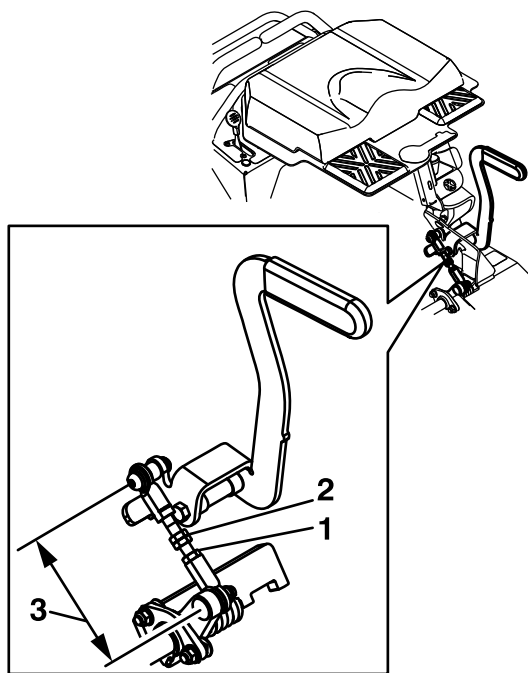

Figure 22
6. To adjust the brake, loosen the jam nut at the lower end of the ball joint. and retain the hairpin and washer on the brake linkage rod. Turn the 2 jam nuts on the brake linkage rod until the distance between the 2 ball joints is reached as shown in Figure 22. Turn the brake linkage rod clockwise to decrease the distance and counterclockwise to increase the distance.